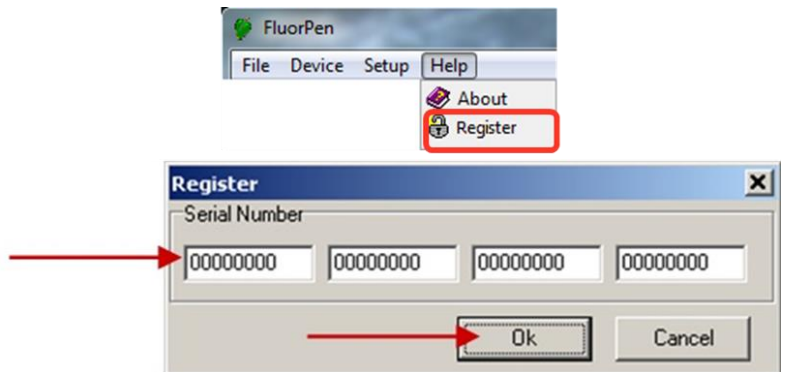

Fig. 19 Software registration.
2. To connect and recognize the FluorPen device in the FluorPen software, proceeds first with the registration of the FluorPen software (Fig. 19).